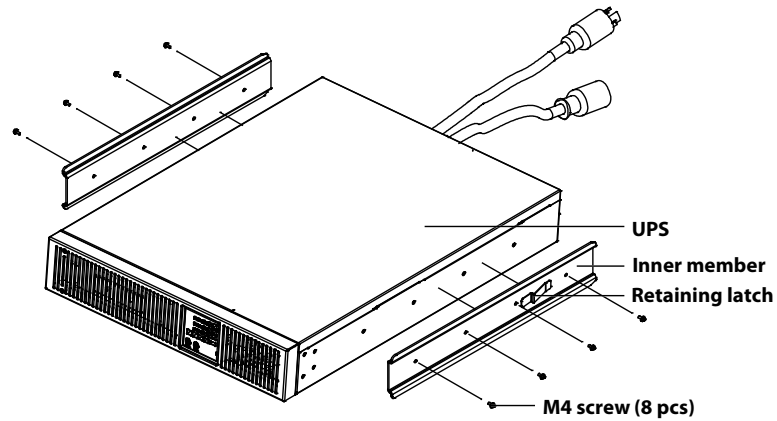

Figure 12: Installing inner members
7. Fasten inner members (pulled from the slide rail assemblies in Step 2) to both sides of the UPS with eight M4 screws provided in this kit. Make sure that the retaining latch is near the rear of the UPS as shown in Figure 12.